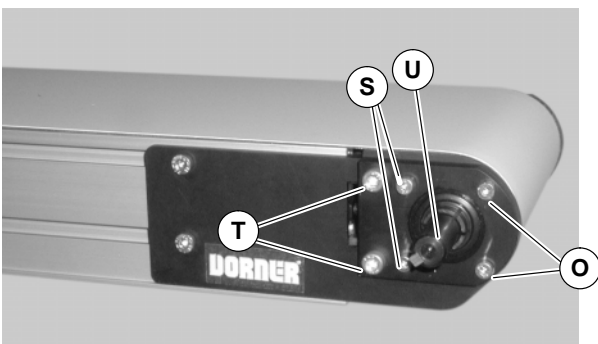

Figure 6
3. Locate drive output shaft (U of Figure 6). Remove two (2) M8 screws (T) and four (4) M6 screws (S) and discard.